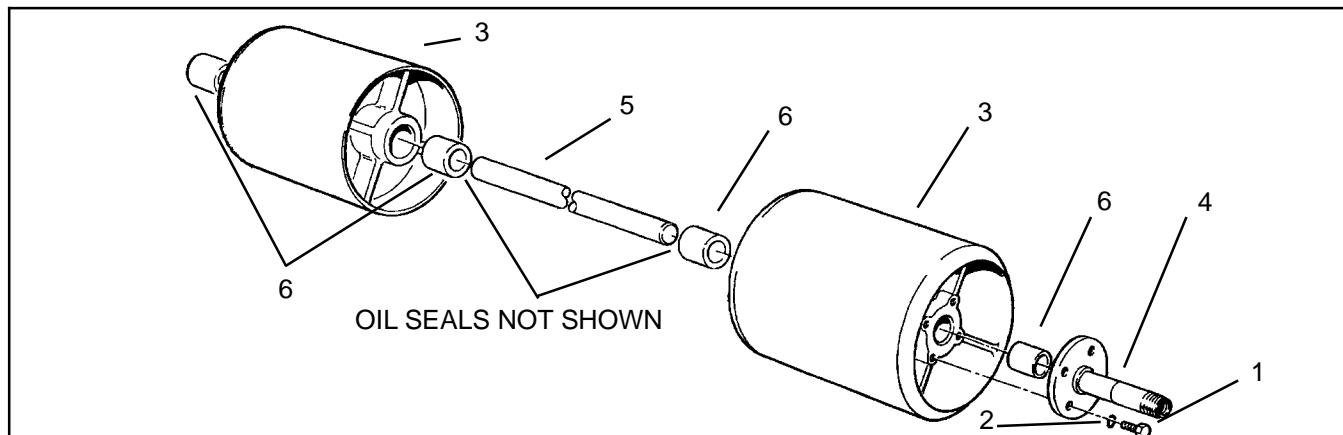

Figure 26
1. Remove four cap screws and lock washers from each drum. Remove both drum shaft extensions from each drum (Fig. 26).
2. Pull both drums apart and remove drum shaft from the drum (Fig. 26).